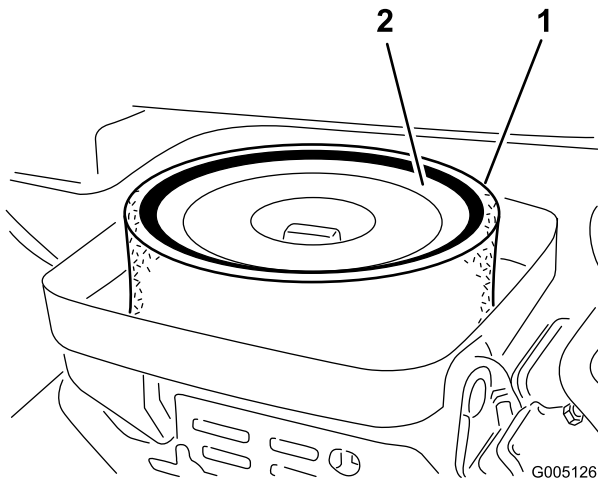

Figure 44
3. If the foam element is dirty, remove it from the paper element (Figure 44). Clean it thoroughly, as follows: